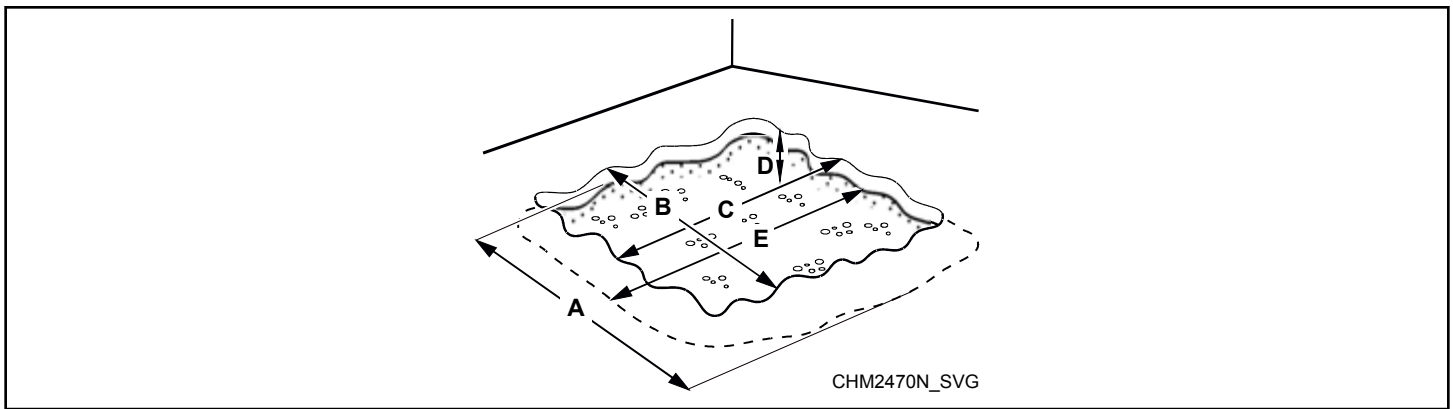

Figure 8
1. Cut a hole larger than the machine base through the existing floor, refer to *Figure 8*.